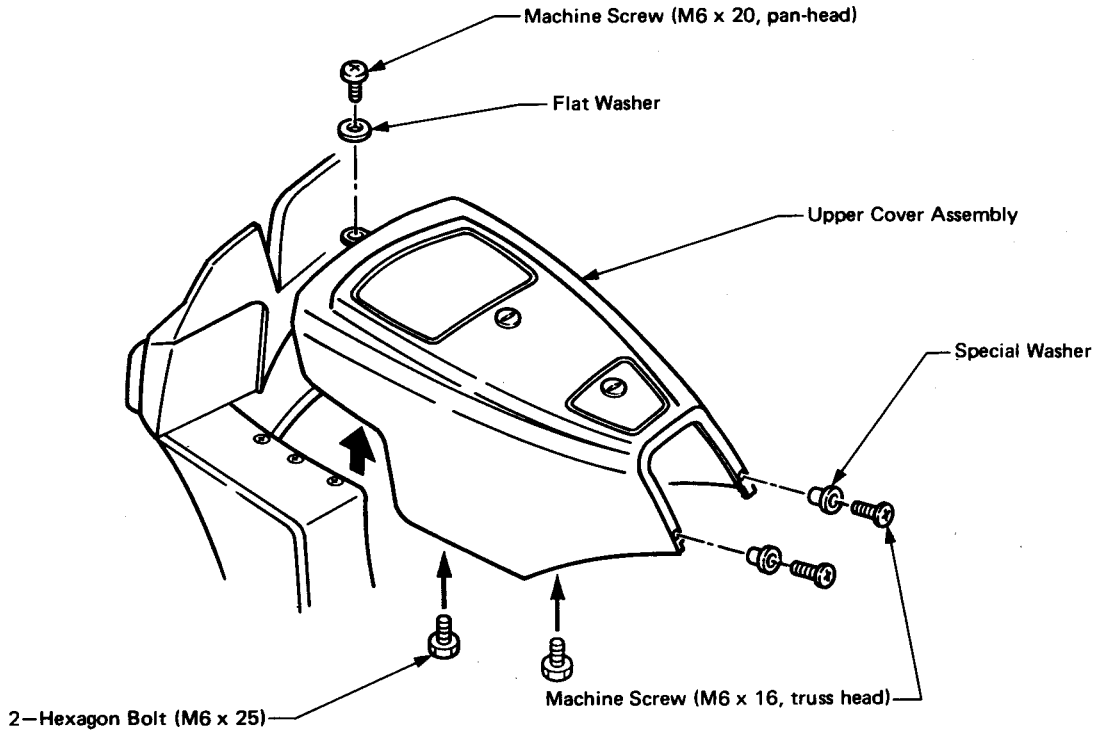

Fig. 6
6. (1) Remove the bolts and screws and then the Upper Cover Assembly, as shown in Fig. 6.